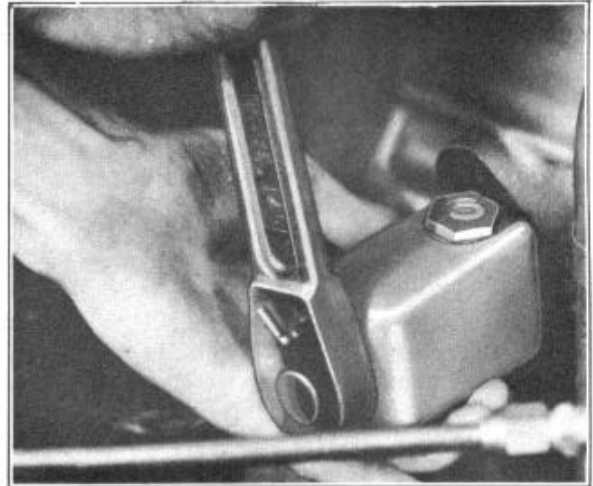

FIGURE 4
5. Remove oil check valve using Oil Check Valve Remover J-1454, Figure 4.